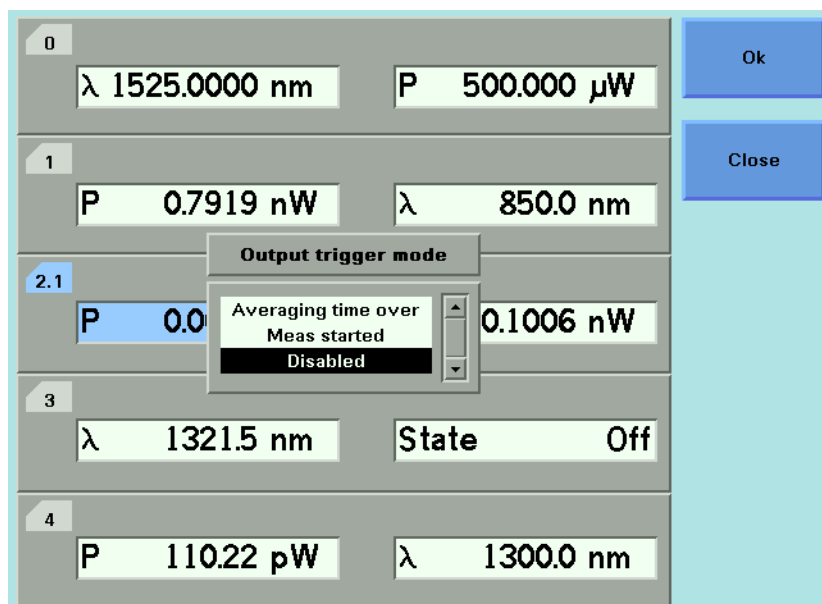

Figure 57 Output Trigger Mode
- 3** Move to *<Output Trigger Mode>*, by using the cursor key, and press *Enter*. You will see the screen in Figure 57.